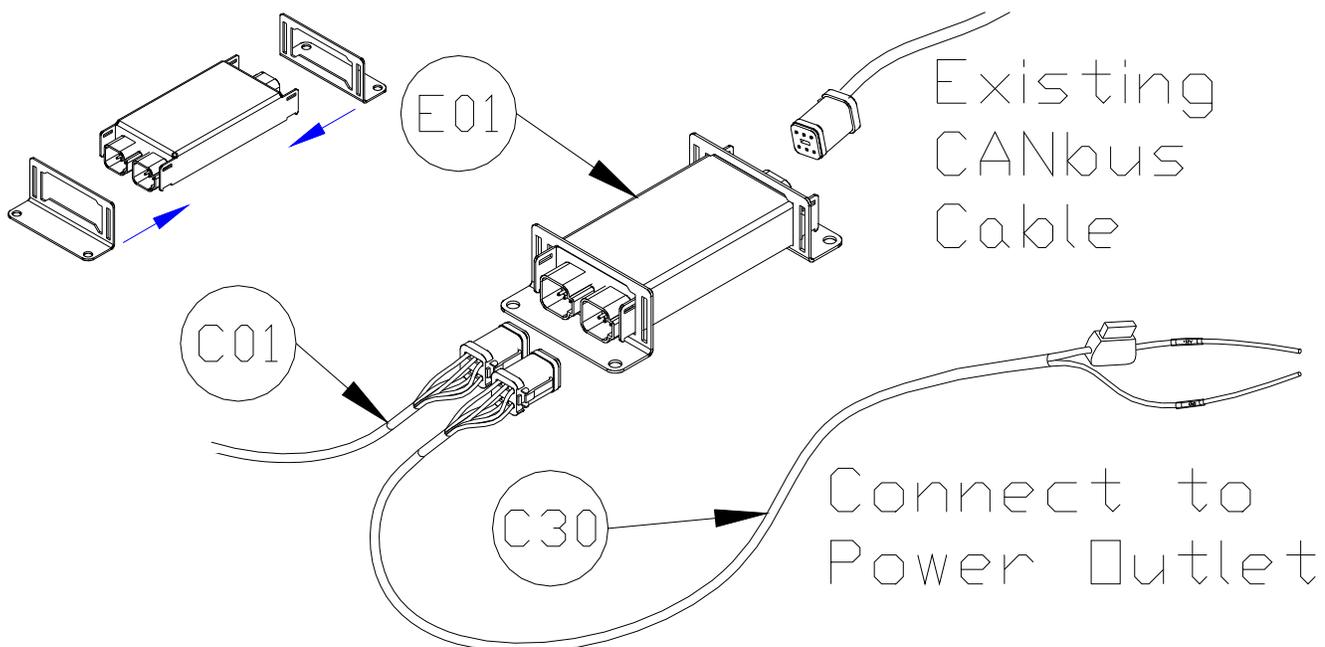

Figure 18: Control Module Mounting
1. Refer to **Figure 1** and **Figure 18**.